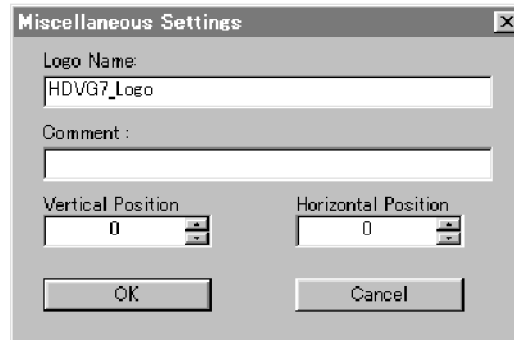

Figure 19: Miscellaneous Settings dialog box
5. Select **Settings > Miscellaneous** to open the Miscellaneous Settings dialog box. (See Figure 19 on page 37.)